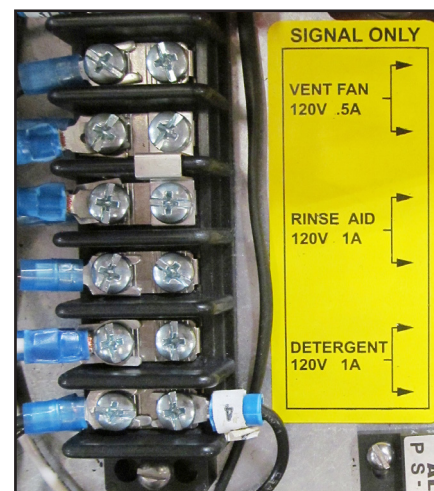

Fig. 11
DO NOT CONNECT A VENT FAN MOTOR TO THE VENT FAN TERMINALS (FIG 11).
1. Detergent and rinse-aid 120VAC, Max. 1 Amp load control signals are located inside the top-mounted control cabinet. Connection points are located on the terminal block (Fig. 11).